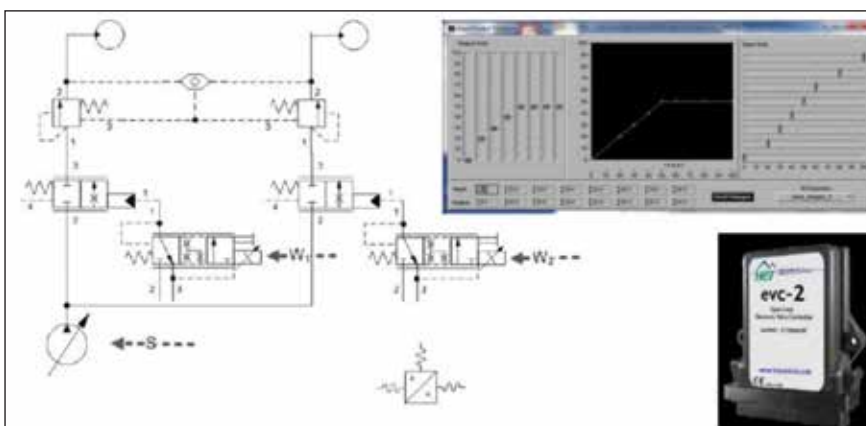

Figure 9. Energy saving control for several consumers driven by one pump without the feedback of a load sensing signal.
Figure 9 shows a simplified circuit that does not require the LS feedback. The variable displacement pump is set to a flow that is sufficient to satisfy the sum of all flows to all active consumers (see (2) and (3)). If the flow to all consumers is pressure compensated, one can calculate the required pump flow from the command signals (W_1, W_2, \dots) to the proportional valves. If the pump flow is a little too high, the supply pressure in this circuit will not increase until a relief valve opens because the circuit divides the flow among both or more consumers. Pressure compensators downstream of the proportional valve sense the highest load pressure and preload the pressure downstream of all proportional valves to the same level. An insufficient supply will result in a lower speed of ALL consumers. At higher pump flows, ALL consumers will move faster. The operator of the machine controls the velocity of each motor/cylinder in an open loop. The ratio of the flow division is a result of the command signals. An electronic controller can calculate the signal to the variable displacement pump or to a flow control valve that bypasses excessive flow of a constant pump into the tank. It is difficult to compensate for the nonlinearities of the proportional valves. Therefore a controller is useful because it allows the allocation of different output signals to different input signals. The allocation can compensate for nonlinearities. The controller interpolates between chosen output signals.